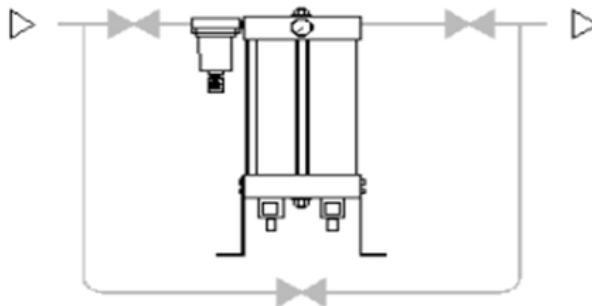

Figure 6. Bypass arrangement to be provided on air line
- Install a system of bypass valves between the dryer inlet and outlet as shown in Figure 6 so that the dryer can be serviced without having to interrupt the compressed air supply from the circuit